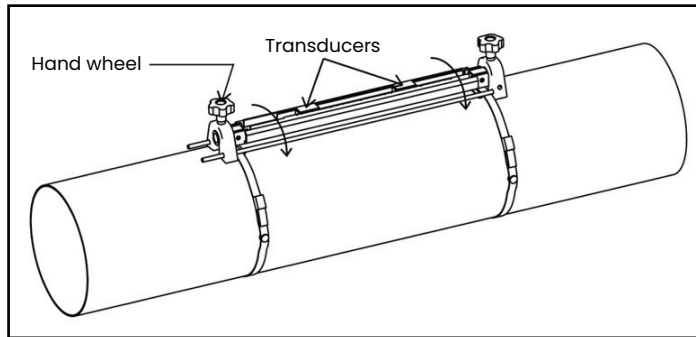

Figure 12: Transducers rotated into view
- a. Loosen both transducers and rotate the fixture so that the transducers are in view (see figure 12 below).
- a. Rotate the fixture so that the transducers are in view (see Figure 12 on page 12).